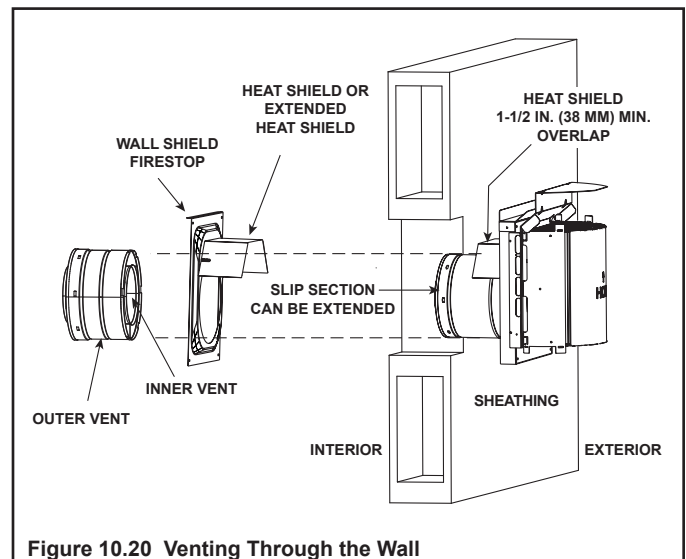

Figure 10.20 Venting Through the Wall
- **DO NOT** remove the heat shields attached to the wall shield firestop and the horizontal termination cap (shown in Figure 10.20).
There are two sections of the heat shield. One section is factory-attached to the wall shield firestop. The other section is factory-attached to the cap. See Figure 10.20.